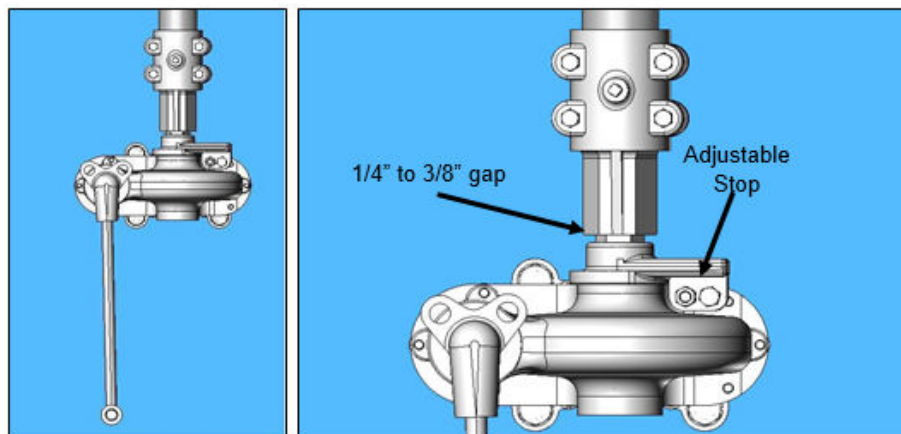
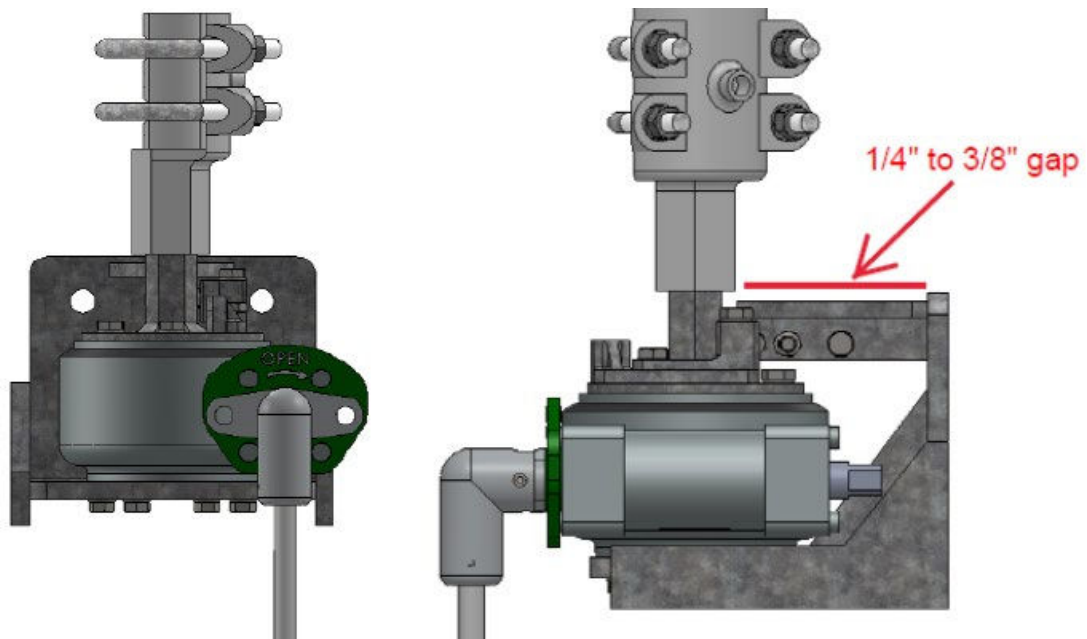

Figure 16: Type HOGO (High Output Geared Operator) Front View
Figure 17: Type SEGO (Safety Enhanced Gear Operator)
- 5.7. **CAUTION:** The pipe collar (above the vertical bearing support) must support the entire weight of the vertical operating pipe. **Do not allow the pipe to rest on the switch operating device.** Refer to **Figure 16 & Figure 17**.
- 6.2.1.2. When the switch is properly adjusted the operator handle should hang vertically and free in both the open and closed positions to permit the use of a customer supplied padlock. Refer to **Figure 16**